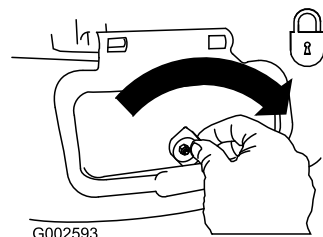

Figure 40
**Important:** Lock the side discharge door after you close it (Figure 40).